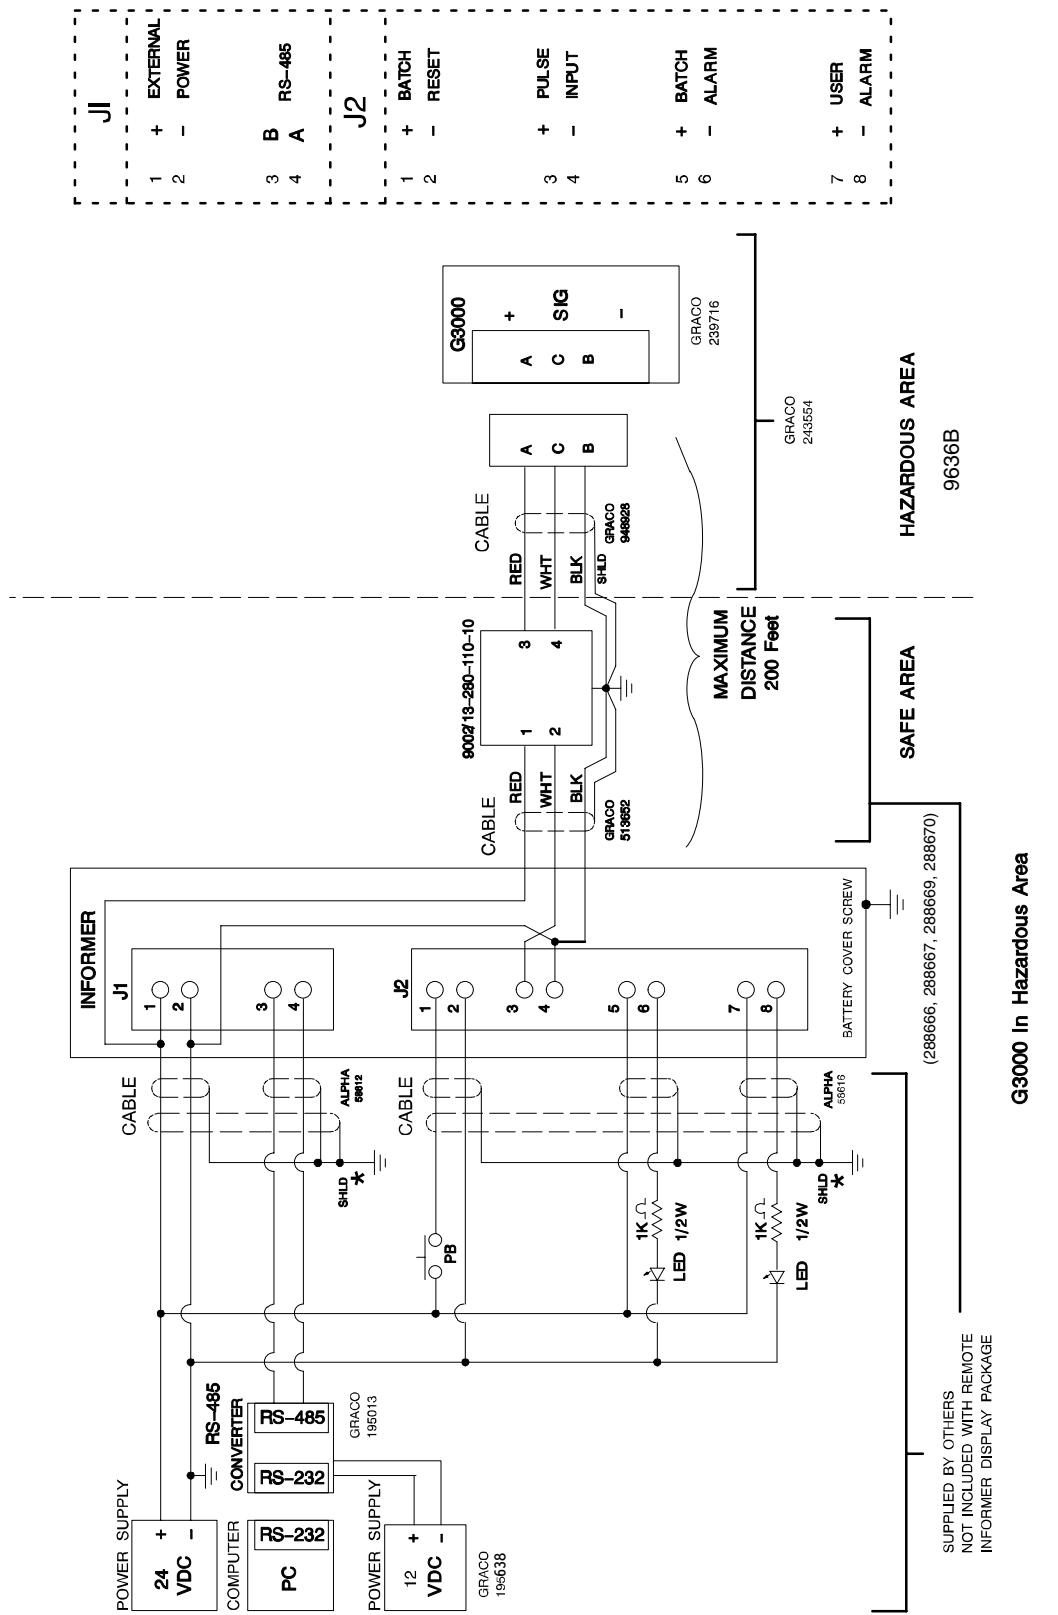

Fig. 4
The Graco Informer display and fluid flow meter, are intrinsically safe for Class I; Division 1; Group D hazardous indoor (NEMA 12) locations when installed as shown in Fig. 4, page 10; "Typical Installation: Remote Informer Display in Non-hazardous Area, Meter in Hazardous Area". Refer to ANSI standards ISA-RP12.6, NEC Article 504 and the Canadian Electrical Code Appendix F.
- To install an intrinsically safe flow meter in a hazardous area and the Informer display in a non-hazardous area, refer to Fig. 4, page 10.